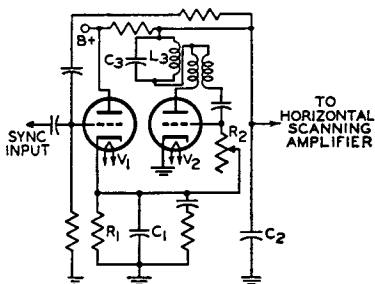
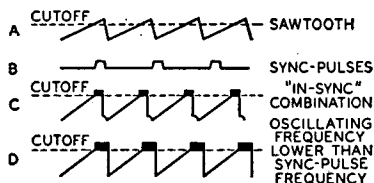
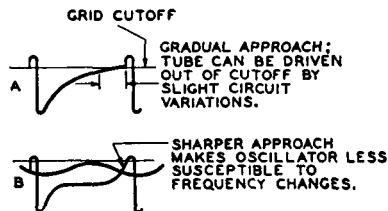

Fig. 70—Simplified synchroguide circuit.
Fig. 71—Sawtooth and sync pulses in synchroguide circuit.
Fig. 72—Waveforms showing effect of tuned circuit L_3C_3 in Fig. 70.
The "synchroguide" is a controlled type of oscillator used in television receivers to generate and control the synchronized sawtooth voltage necessary for adequate line- or horizontal-frequency scanning. A simplified synchroguide circuit is shown in Fig. 70. This circuit provides stable, noise-free control of a blocking oscillator which generates a horizontal-frequency signal. It permits comparison of the received sync pulses and the generated sawtooth voltages so
The triode V_2 in Fig. 70 is a conventional blocking oscillator which enables a sawtooth voltage to be developed across the capacitor C_2 . A portion of this sawtooth is fed back to the grid of the control tube, V_1 . The positive sync pulses are also applied to the grid of V_1 . The waveforms shown in Fig. 71 illustrate the sawtooth and sync pulses (A and B) and their proper "in-sync" combination (C). The sync pulse occurs partly during the portion of the sawtooth voltage in which the triode V_1 draws current. Any shift in sync pulse as it is superimposed on the sawtooth, therefore, will affect the amount of conduction of the control tube. A change in control-tube conduction ultimately affects the bias on the oscillator-tube grid by changing the voltage to which the capacitor C_1 in the cathode circuit may charge. An increase in the positive bias increases the frequency of oscillation.
For example, waveform D in Fig. 71 illustrates a condition in which the sawtooth voltage is advanced in phase with respect to the sync pulses. The widening of the pulse which occurs at
The blocking oscillator can be made more immune to changes in frequency and noise if V_2 is brought out of cutoff very sharply. This effect is obtained by sine-wave stabilization. The tuned circuit L_3C_3 in the plate circuit of Fig. 70 superimposes a shock-excited sine wave on the plate and grid waveforms, as shown in Fig. 72.